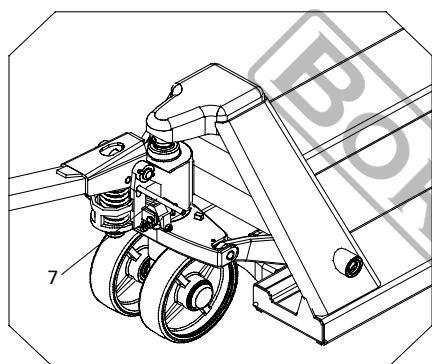

Fig. 3
6. Turn the handle to the level position, pull out pin 7 and store it in a safe place for next use. (Fig. 3)